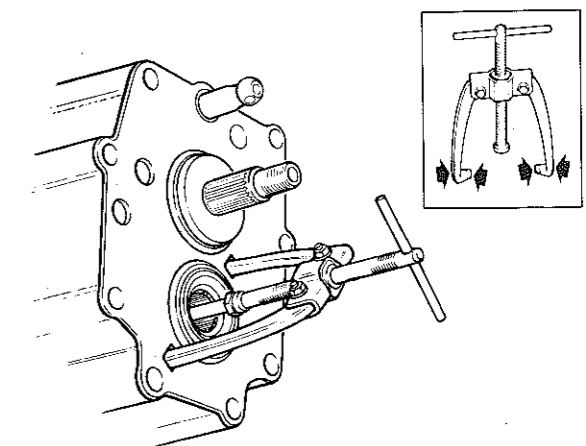

Fig. 6.8 Pulling off 5th gear housing. Puller feet may need to be ground down (inset) (Sec 6)
- 6 Pull off 5th gear housing, using a two-legged puller acting on the layshaft bolt as shown (Fig. 6.8). Recover the gasket.